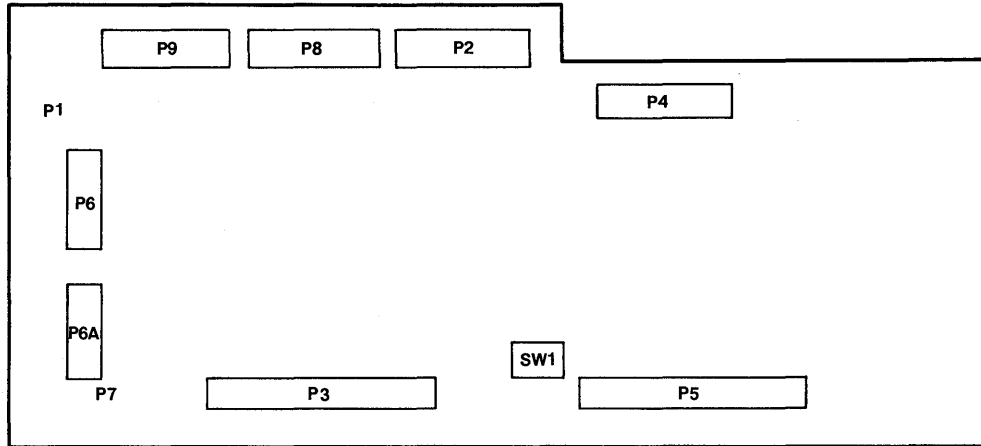

Figure 2-10 Location of Internal Switch SW1
2. Locate switch SW1 on the TS 816/40 logic board as shown in Figure 2-10.